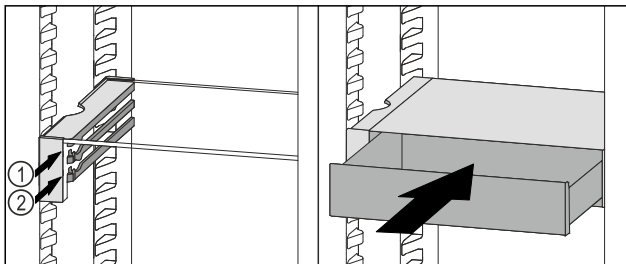

Fig. 162
- ▶ Place the VarioSafe drawer behind the stoppers on desired rib Fig. 162 (1) or Fig. 162 (2).